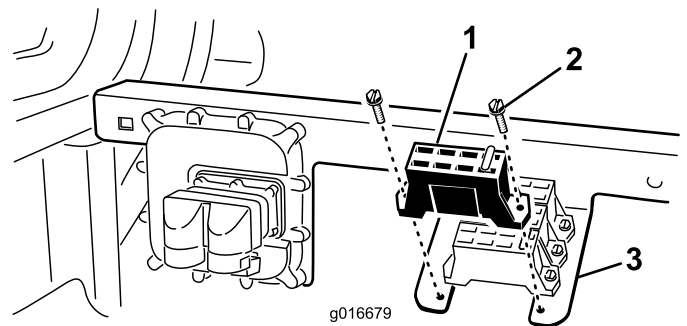

Figure 5
- Secure the fuse block to the seat support frame under the seat with the (2) hex washer head screws and (2) locknuts as shown in Figure 5.
- Insert the 10 amp fuse into the fuse block at the location shown in Figure 5.